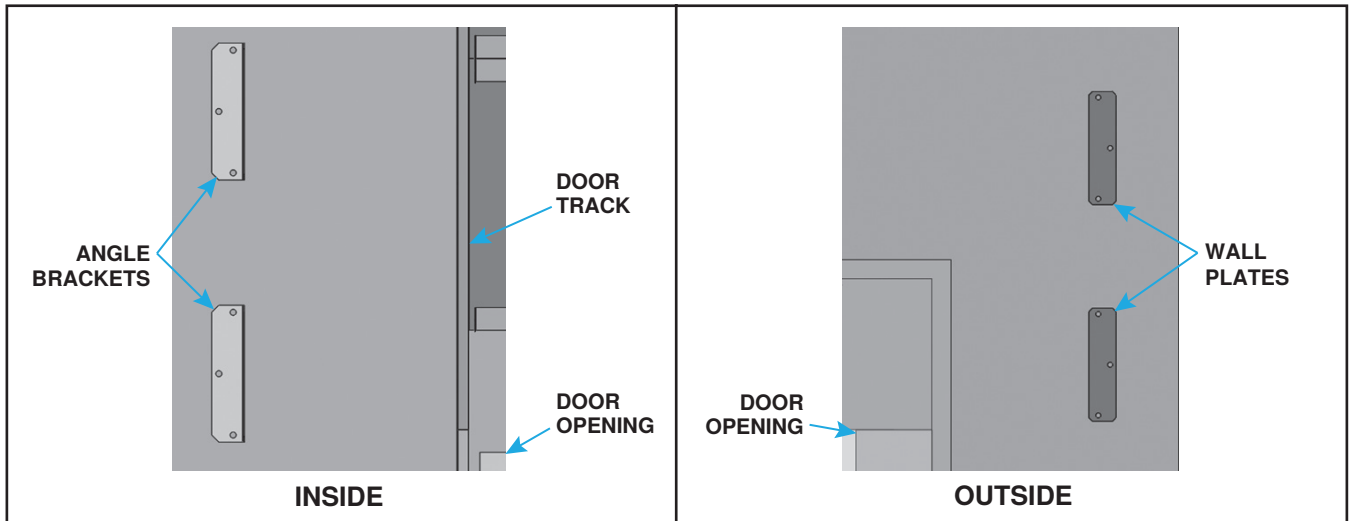

Figure 6. Inside Angle Brackets and Outside Wall Plates
- Using suitable lift or hoist, lift unit into position determined in step 3 and mark mounting hole locations for inside angle brackets and outside wall plates (see Figure 6). Drill holes through wall as necessary and secure angle brackets and wall plates using field-supplied 1/2-inch nuts, lockwashers, and bolts.